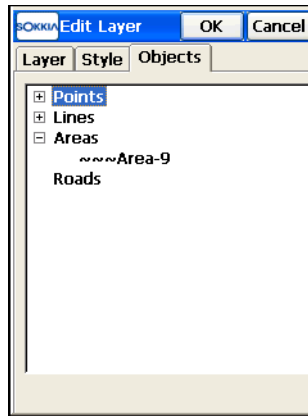

Figure 6-25. Layer Objects
7. To view objects on the existing layer, tap on the **Objects** tab (Figure 6-25 on page 6-19).